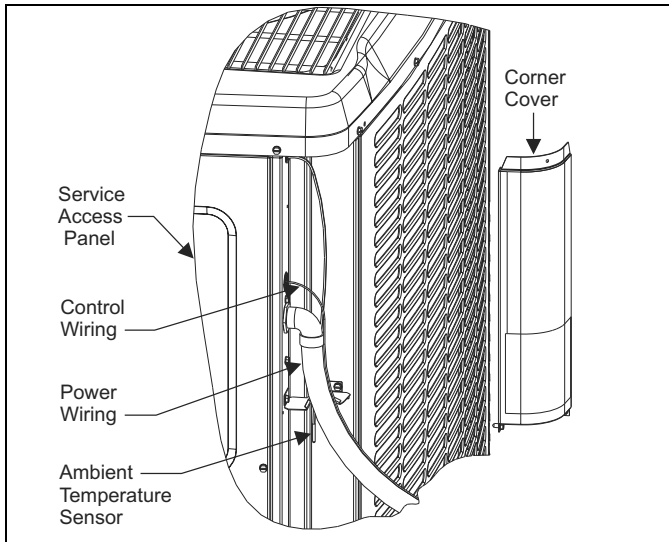
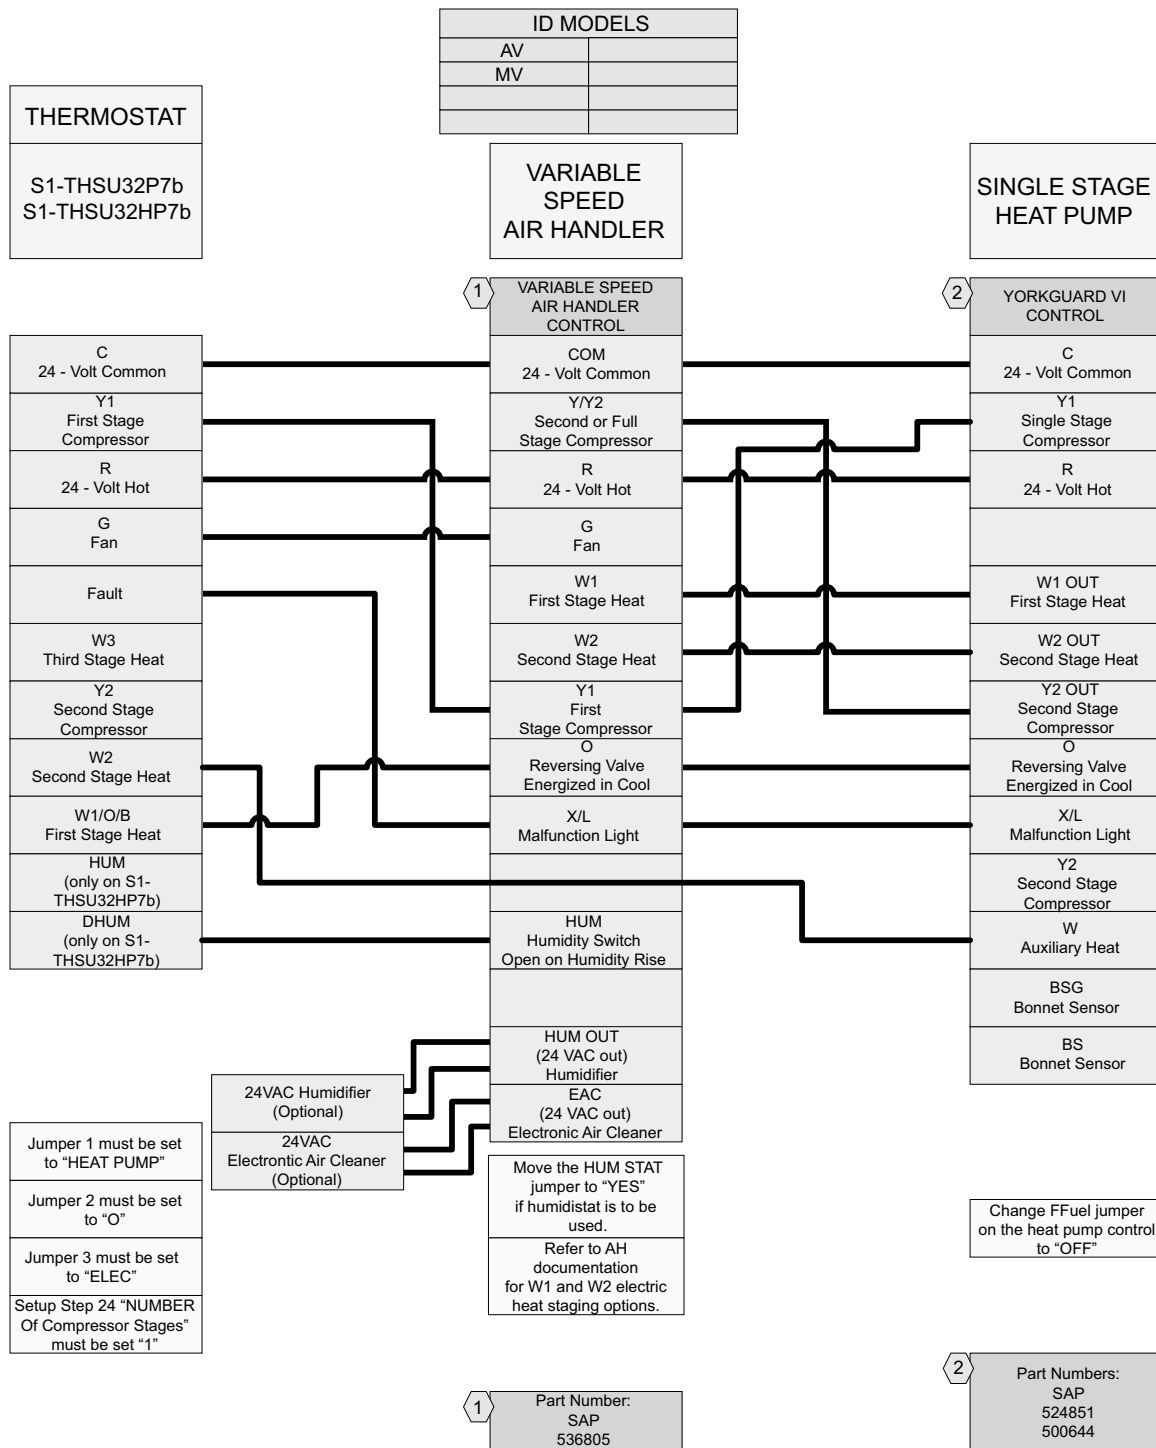

FIGURE 6: Typical Field Wiring
**FIGURE 10:** Thermostat Wiring – Single Stage Heat Pump (with YGVI control) – Modulating Furnace
2. Remove the screws at the bottom of the corner cover. Slide corner cover down and remove from unit. See Figure 6.
1. Route low voltage wiring into bottom of control box as shown in Figure 6. Make low voltage wiring connections inside the junction box per Figures 10 - 15.
2. Route low voltage four conductor shielded thermostat communications harness into junction box and connect to communications port on control board. See Figure 6.